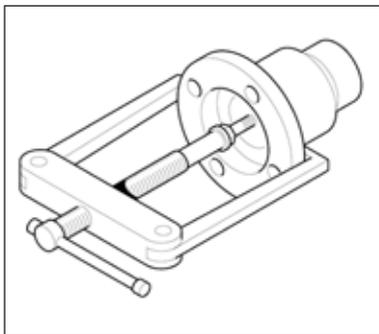

Figure 5a. Drive Flange Removal
- Flange/coupling removal should only be undertaken with the aid of a puller type device with a screw in the shaft end (see Fig. 5a) to avoid damaging the flange or shaft end.